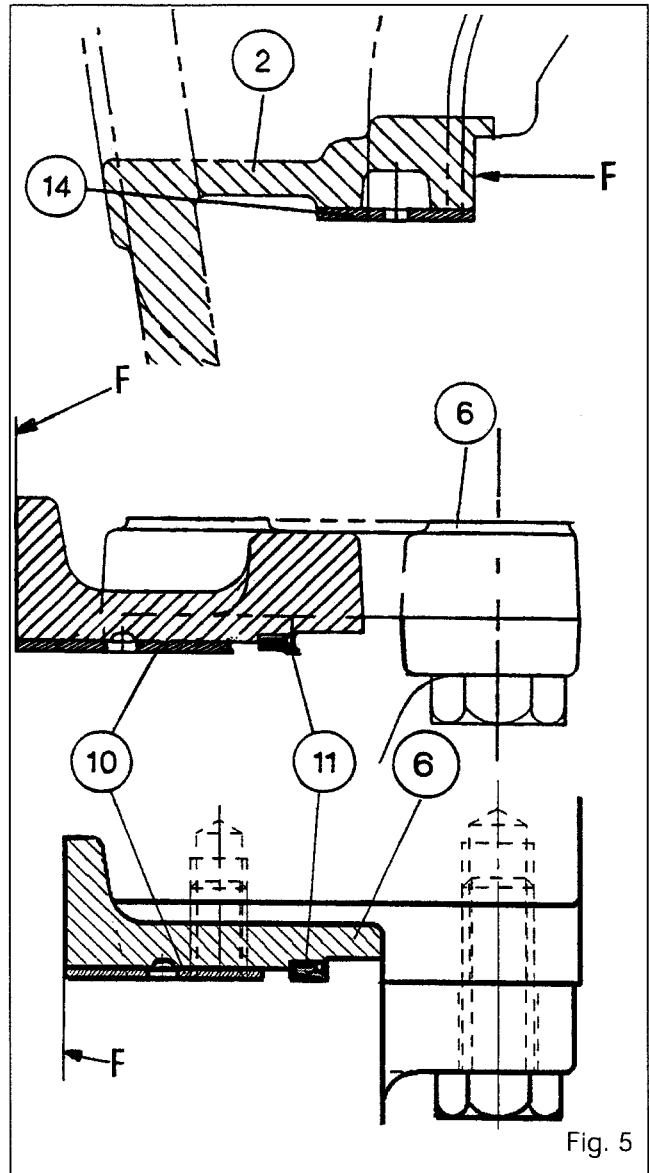
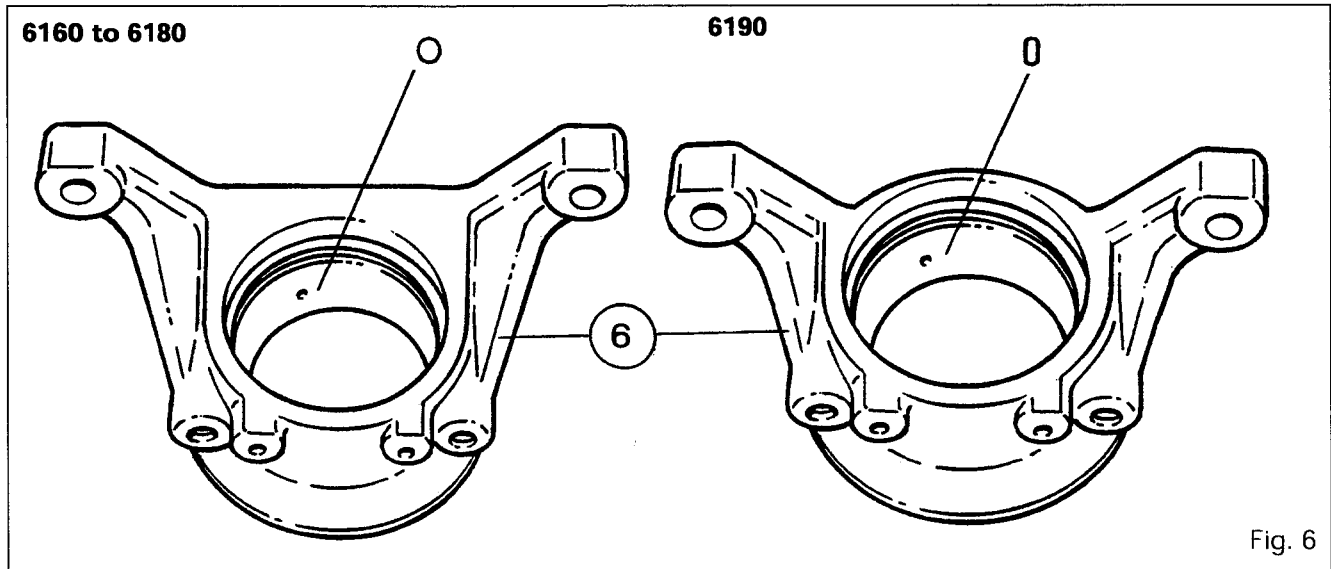

Fig. 5
Fig. 6
18. Clean the parts, using a press and a suitable fixture, fit the bushes in their respective supports flush with face "F" (Fig. 5) with opening "O" facing upwards (Figures 6 and 7) and aligned with the lubricating channel. Fit the seal (11) fully home on the shoulder of the support (6).